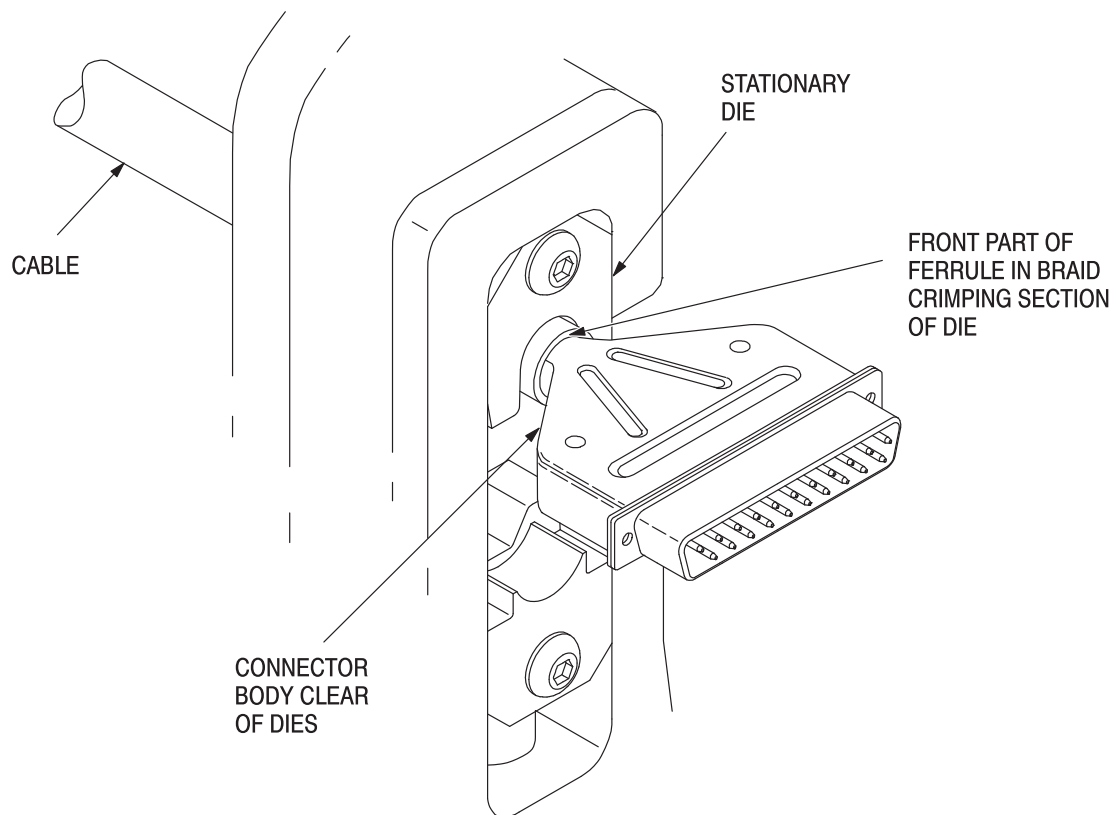

Figure 2
1. Place the ferrule on the stationary die, with the cable extending out the back side of the die. Make sure that the front part of the ferrule is positioned in the braid section and the back part of the ferrule is positioned in the insulation section. See Figure 2.